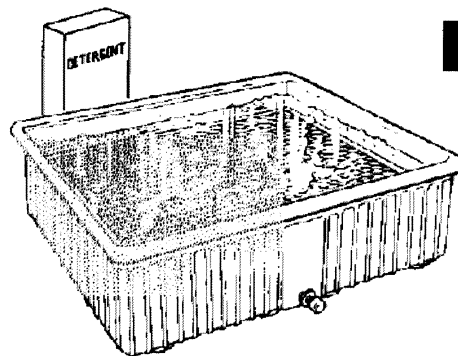

FIG. 24
- A. Lay the cell on its side in the container and allow it to soak for 30 minutes. Fig. 24